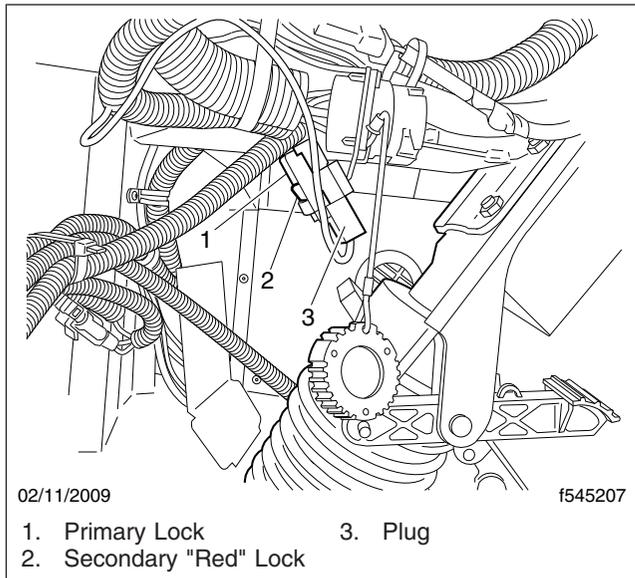

Fig. 4.5, Shorting Plug
The shorting plug is used to initiate a parked regen of the ATD. The shorting plug is located under the dash, next to the steering column. Mounting locations vary. See Fig. 4.5.
- 3.1 Slide the secondary red lock away from the white cover. See **Fig. 4.5**, Ref. 2.
- 3.2 Push the primary lock in. See **Fig. 4.5**, Ref. 1.
- 3.3 Pull the plug apart. See **Fig. 4.5**, Ref. 3.